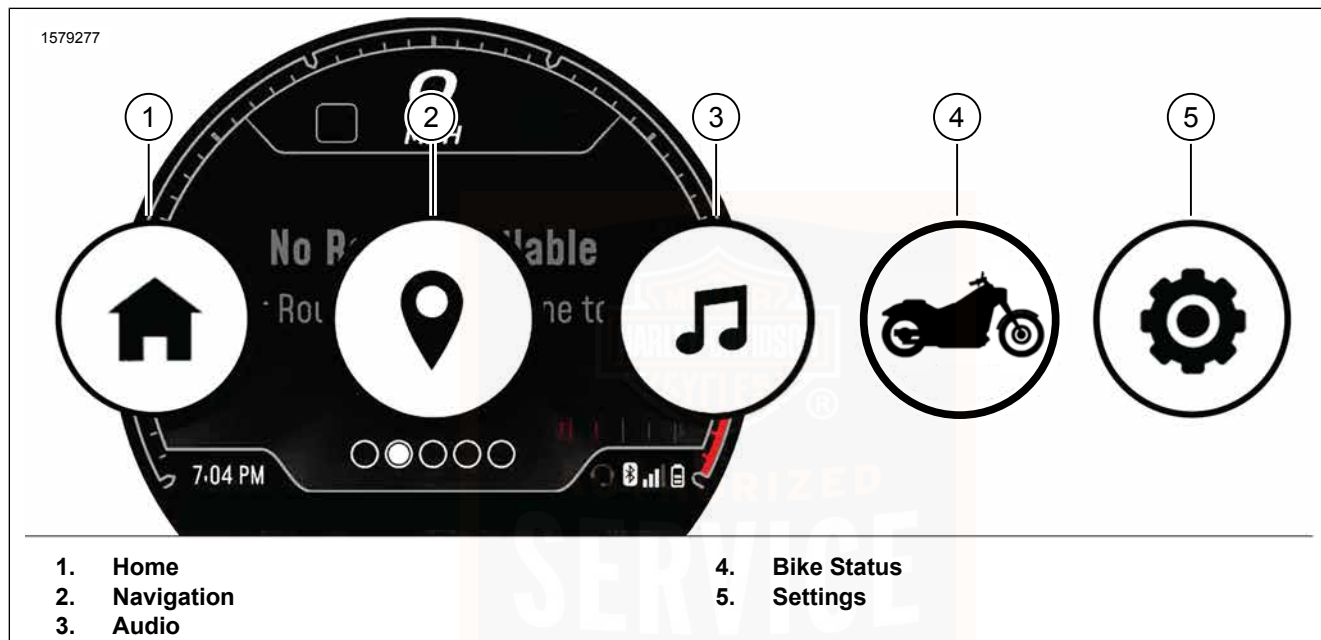

Figure 43. Menu Selections
See Figure 43. To access the menu selections on the IM press the menu button on the Left Hand Control Module (LHCM). Refer to Left Hand Control Switches (Page 91).
2. See Figure 43. **Select:** settings menu (5).
See Figure 43. To access audio functions **Select:** audio card (3).
1. See Figure 43. **Select:** settings menu (5).